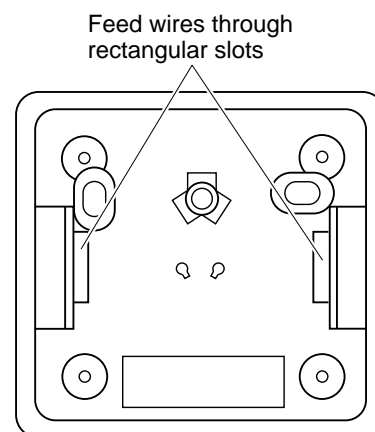

Figure 32 - Back View of Thermostat Base
6. Feed the electrical wires through the rectangular slots (from the back) on each side of the base (see Figure 32).